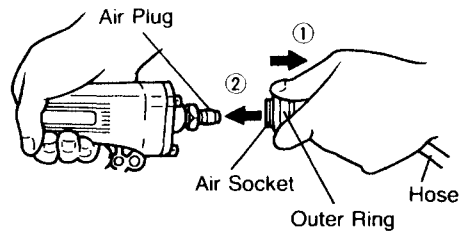

Fig. 5
3. Connect the hose assembly (Fig. 5)
- ① Pull the outer ring of the air socket.
- ② Insert the air plug in the air socket.
- ③ Return the outer ring and connect the hose.